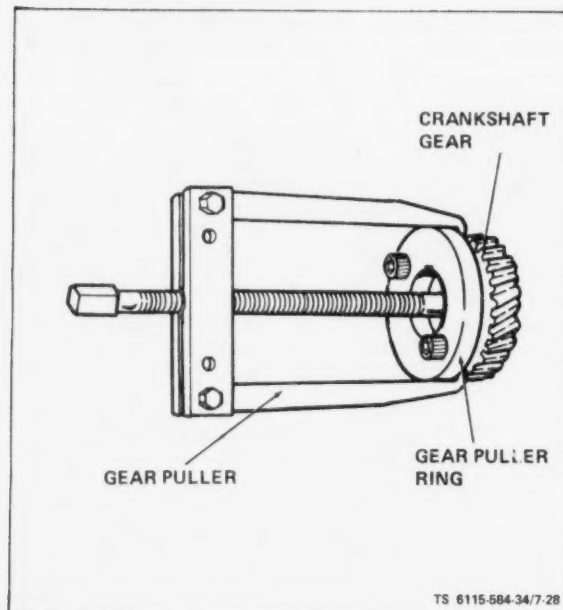

Figure 7-28. Crankshaft Gear Removal
(1) Refer to Operator and Organizational Maintenance Manual and remove blower housing.
(2) Refer to paragraph 2-9 and remove engine.
(3) Refer to paragraph 7-7 and remove blower wheel.
(4) Refer to paragraph 7-8 and remove alternator stator.
(5) Refer to paragraph 7-14 and remove gear cover.
(6) Refer to paragraph 7-9 and remove cylinder heads.
(7) Refer to paragraph 7-4 and 7-5 and remove flywheel and housing.
(8) Refer to paragraph 7-10 and remove oil base.
(9) Refer to paragraph 7-11 and remove oil pump cup assembly.
(10) Remove lock ring (14) and retaining washer (15) in front of crankshaft gear (16).
(11) Pull off crankshaft gear. It has 2-1/4-20 UNC tapped holes for attaching a gear pulling ring (see figure 7-28). Use care not to damage teeth if gear is to be re-used. Remove woodruff keys (25, figure 7-15).
(12) Refer to paragraph 7-10 and remove connecting rod and piston assemblies.